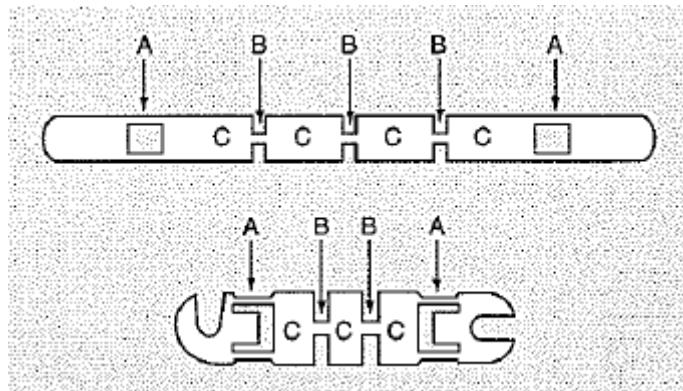

Figure 5.4: Fuse Links
- 5-9 Figure 5.4 shows some of the fuse link configurations used in cartridge fuses. Areas A and B are calibrated to melt at a specific current, according to the rating of the fuse. Area C is made of zinc and has a thick cross section. This area absorbs heat to delay the blowing of the fuse and permit momentary overloads. In a circuit with a current in excess of 135% (a light overload), the link will open the areas marked B. In a short circuit or ground fault, the link will open in all areas marked A and B. The sections marked C will drop out in their original metallic form.